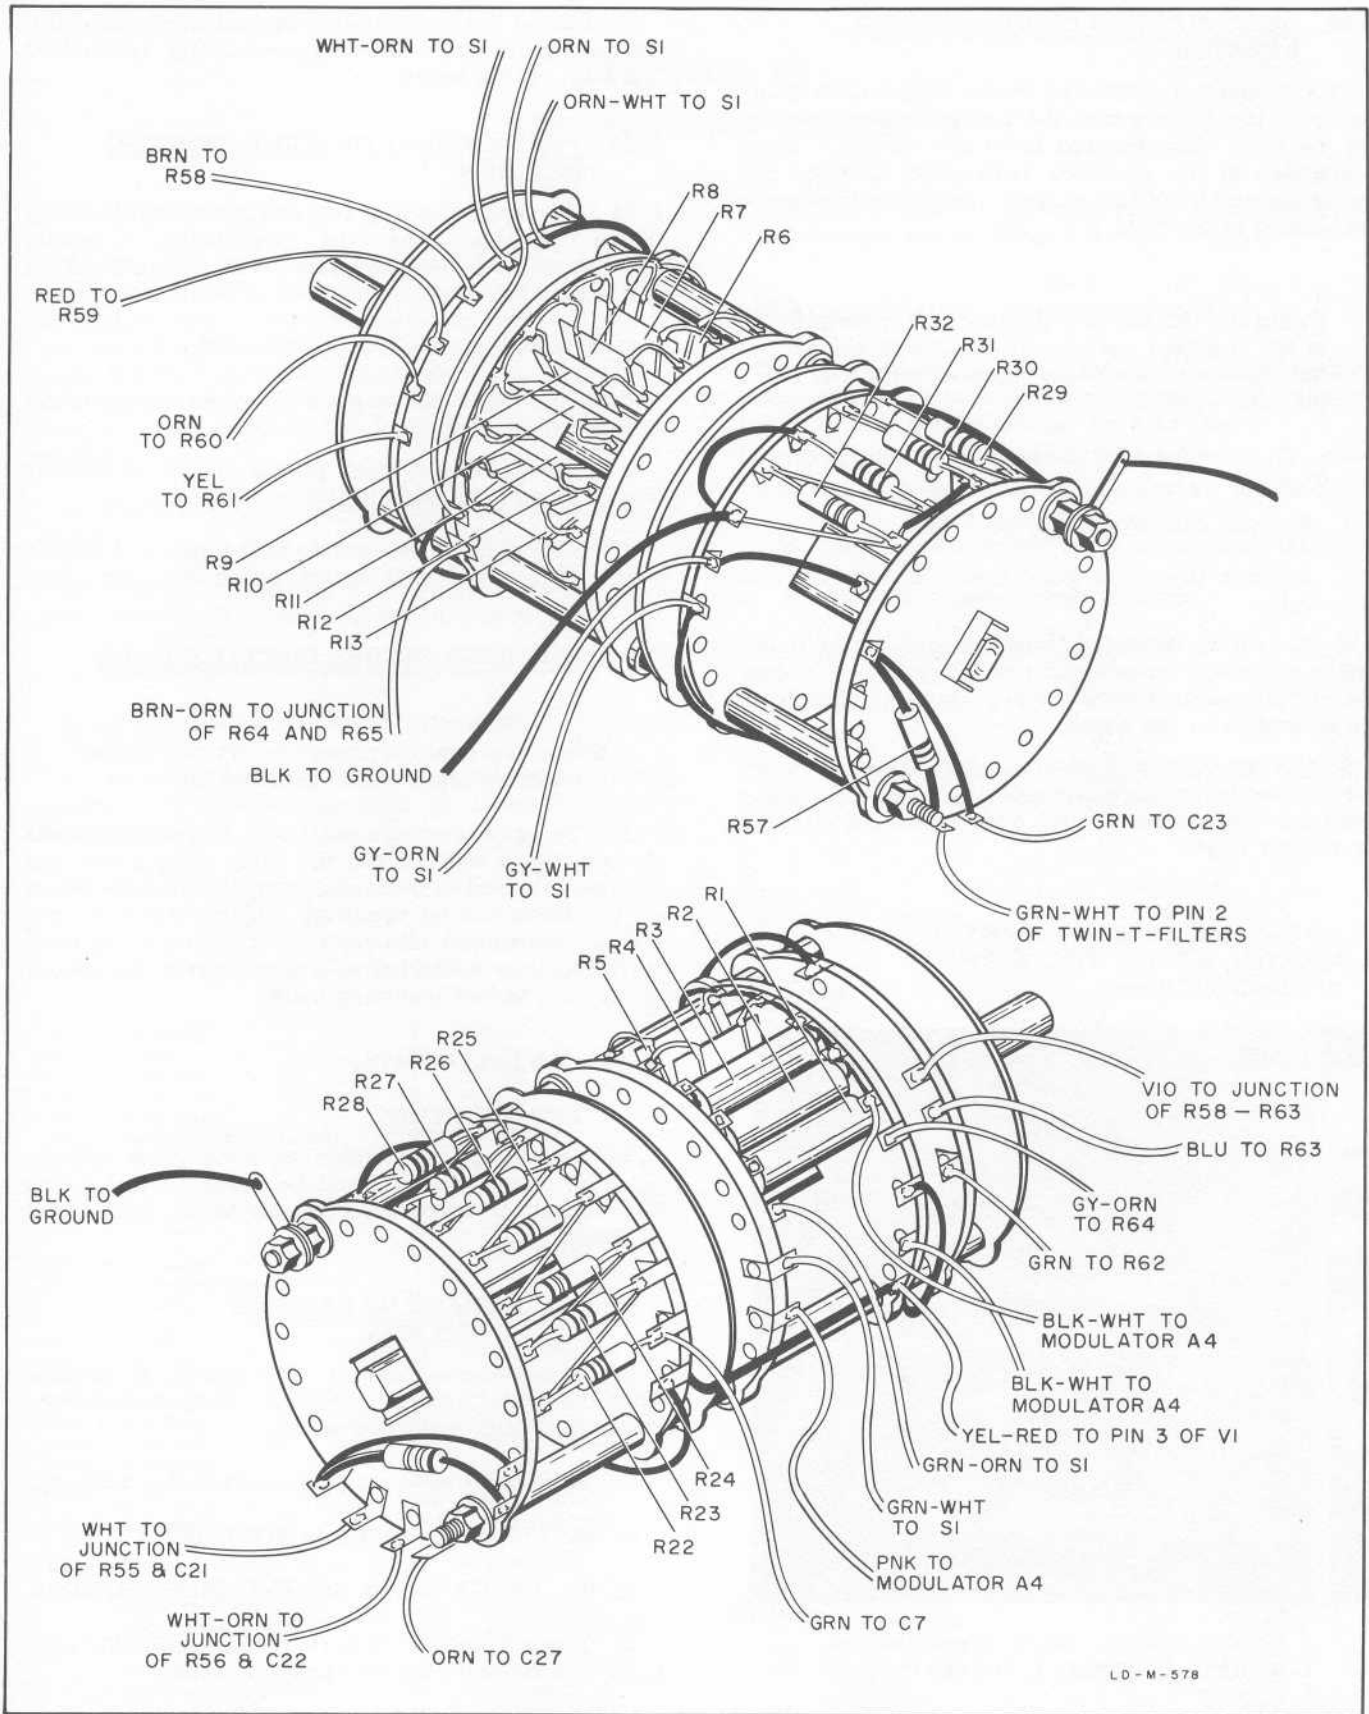

Figure 5-5. Range Switch Detail
5-29. Figure 5-5 shows the location of all parts and wire destinations for the replacement of the RANGE switch. The Model 425A should be checked for correct calibration after replacing this switch. (See paragraph 5-46.)
- c. Locate the indicated conductor strip on the modulator assembly circuit board in figure 5-5. Note that the strip is located between two leads coming from the underside of the board.